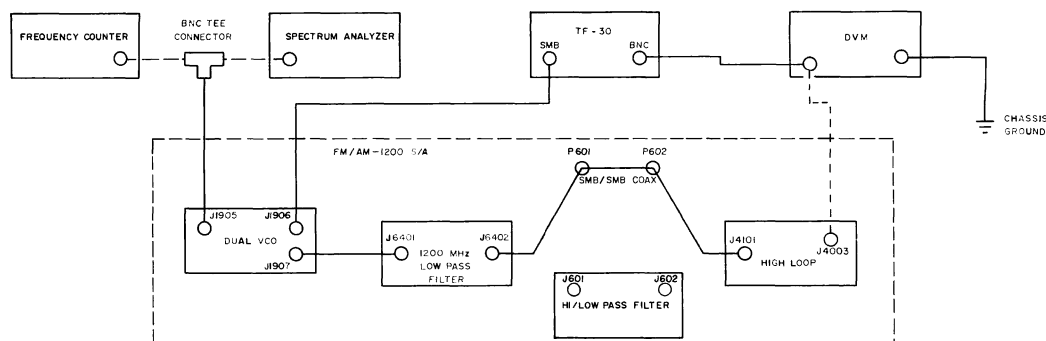

Figure 4-2 High Loop Calibration Set-up
4. Connect Test Equipment as shown in Figure 4-2.
5. Select RF 299.0000 on the FM/AM-1200S/A Keyboard (18).